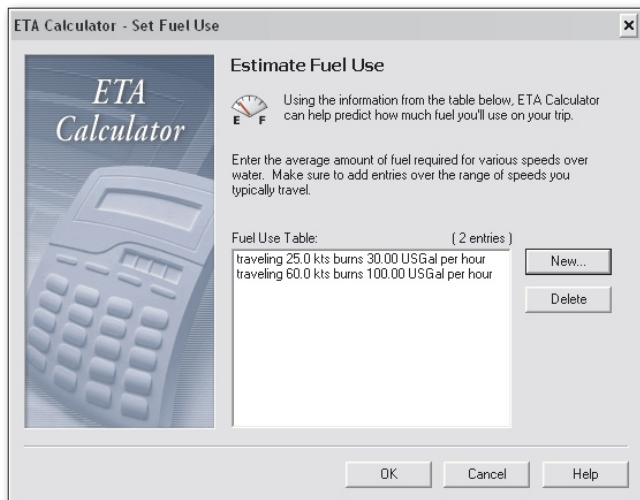

Figure 13.3 - ETA Calculator - Set Fuel Use Dialog Box
3. The **ETA Calculator - Set Fuel Use** dialog box (see **Figure 13.3**) will appear. Click on the **New** button.